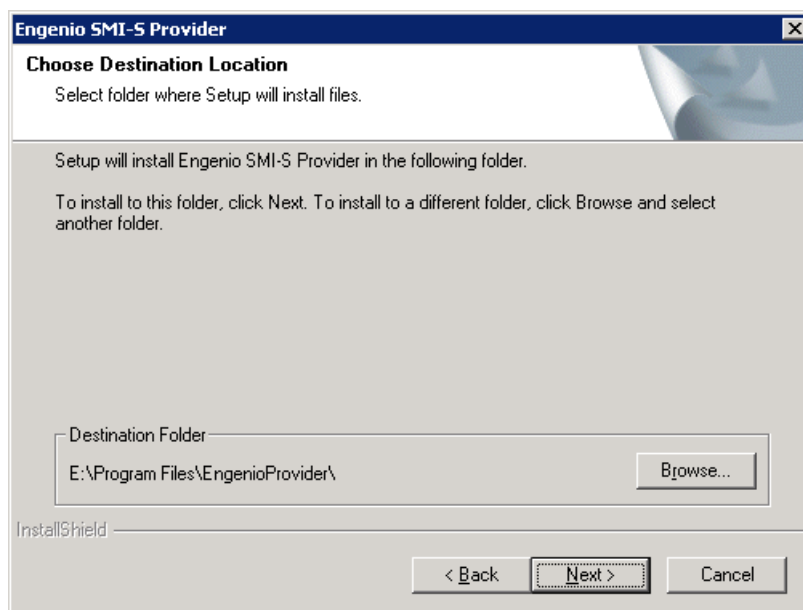

Figure 7-6 Choose Destination Location window
6. The Choose Destination Location window opens. Click **Browse** to choose another location or click **Next** to begin the installation of the DS4000/FASTT CIM agent (Figure 7-6).